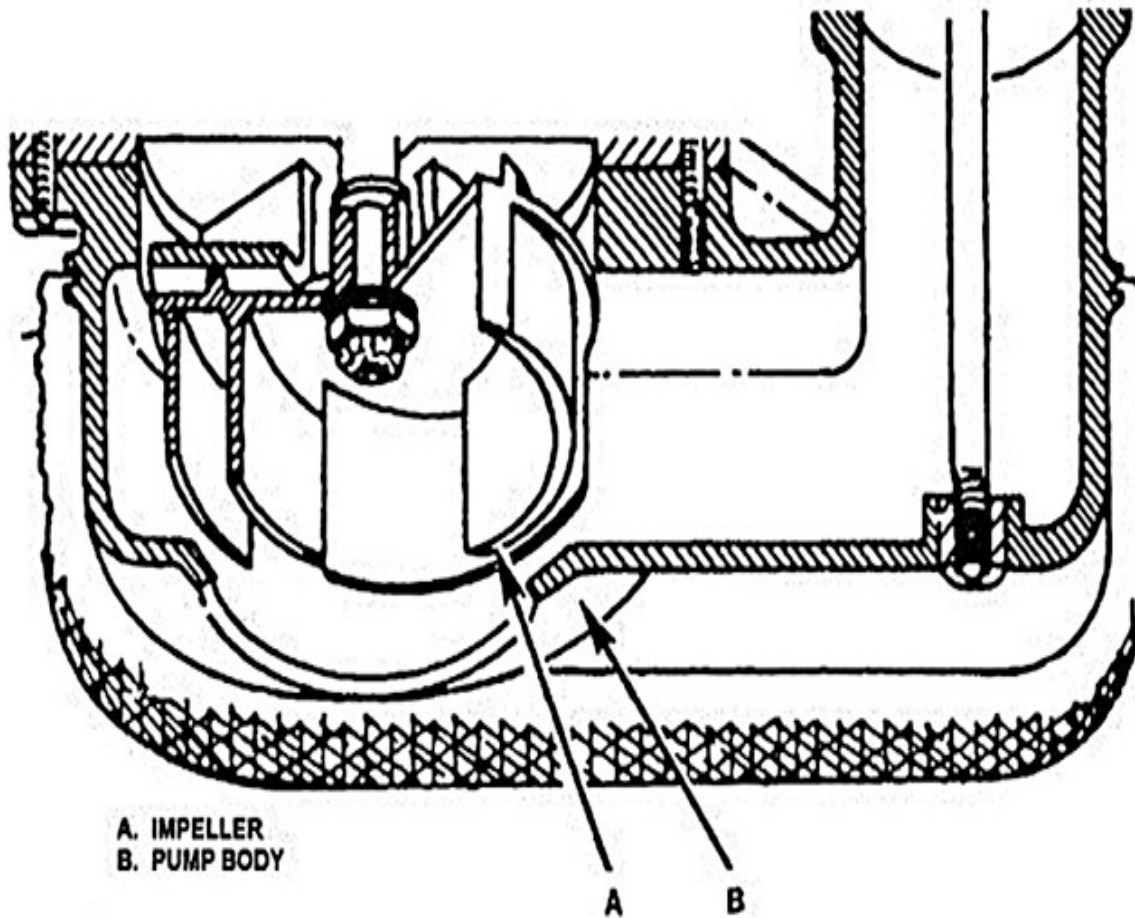

Figure 1-1. Centrifugal-type pump.
The centrifugal-type fuel pump is suitable for boost, transfer, or air refueling operations. The primary purpose of the pump is to pressurize fuel in a manifold. Fuel can then be directed to the engine, another fuel tank, or to a receiver aircraft. As the name implies, the centrifugal-type pump operates by centrifugal force. Figure 1-1 illustrates this concept. You can see that fuel enters the pump near the inner portion of the rapidly rotating impeller (A). As the fuel is caught in the impeller and spun rapidly, the weight of the fuel causes it to develop an outward force or pressure. The impeller rotates at a high speed, and the weight of the fuel throws it to the outer circle of the impeller. Air is forced to the inner portion of the impeller because it is lighter than the fuel. It collects and rises to the surface